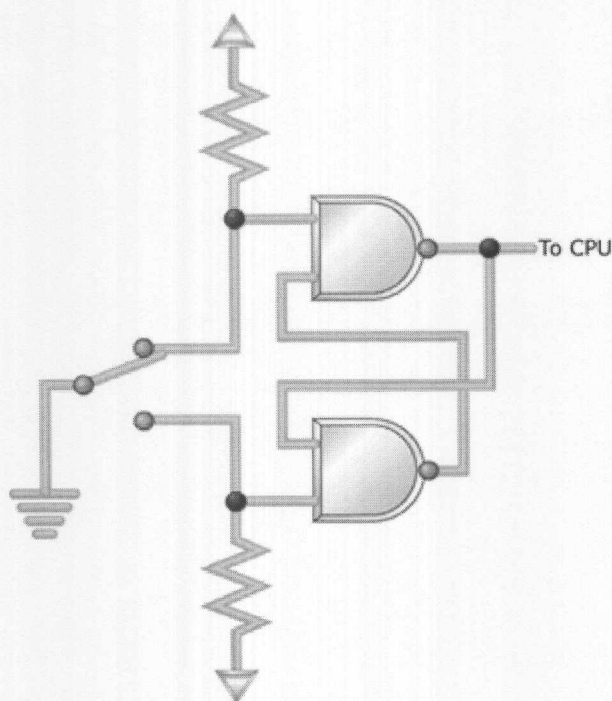

Figure 1: The SR debouncer
Figure 1 shows the classic debounce circuit. Two cross-coupled NAND gates form a simple Set-Reset (SR) latch. The design requires a double throw switch. Two pull-up resistors generate a logic one for the gates; the switch pulls one of the inputs to ground.